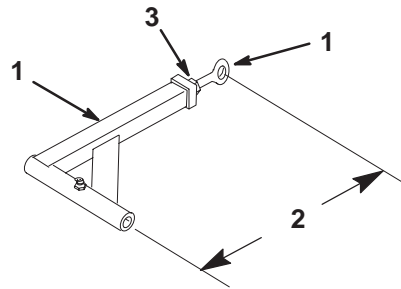

Figure 67
11. If the fixed idler contacts the end of the adjustment slot and more belt tension is required, a small change in the lengthen the push arms can be made (Fig. 67).
12. To adjust push arms, loosen jam nut and rotate ball joint counterclockwise, one turn at a time. Adjust each side the same amount (Fig. 67).